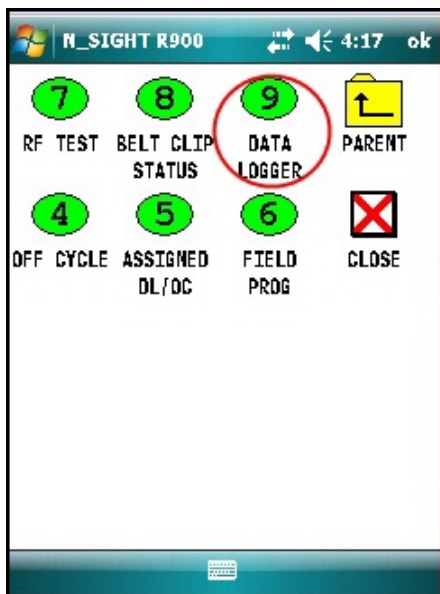

Figure 46 – HHU Home Screen
1. From the host software home screen on the HHU, click **MENU**. See Figure 46.